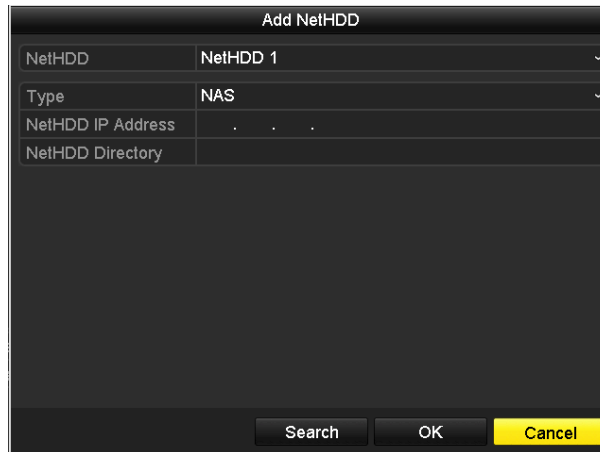

Figure 10-7 HDD Information Interface
Step 2 Click the **Add** button to enter the **Add NetHDD** interface, as shown in Figure 10-7.